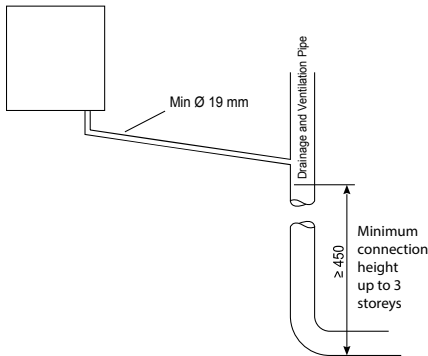

Figure 13 Connection of the Condensate Water Drainage Pipe to Internal Drainage and Ventilation Pipe
- c) characteristics of the chimney to which the boiler may be connected, according to fig 13.